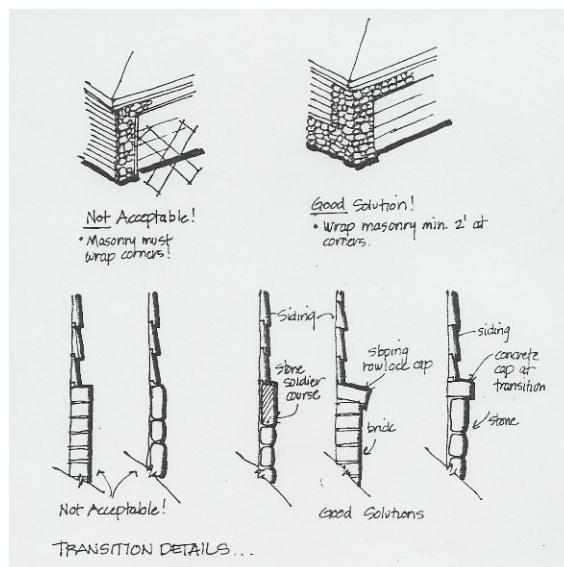

Figure 4 – Corner Detail for Masonry Veneers
- E. Masonry materials should end on inside corners or built-out columns. When masonry veneers are used, designs should create impressions of substantial mass in the veneer implementation, and not a "wallpaper veneer" application. (See Figure 4)